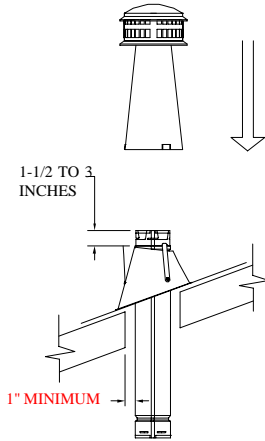

Fig 16
4. **Flashing.** Position the **Flashing** so the hole is directly over the end of the pipe, as shown in Figure 16. Run the top edge of the **Flashing** under the roof covering, nail as required,
5. **Height.** Add sufficient **Pipe Sections** of B-Vent until the system terminates 1-1/2" to 3" above the collar of the **Flashing** as shown in Figure 16.